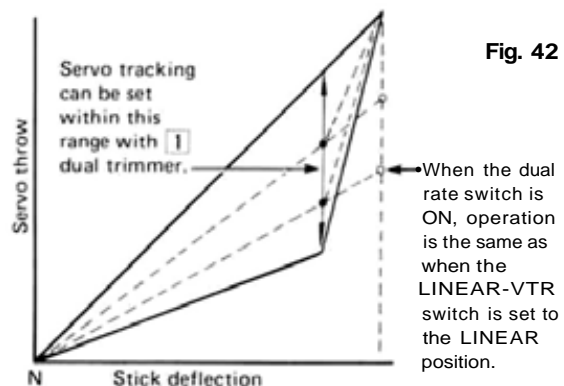

Fig. 42
•When the Aileron LINEAR/VTR Switch [3] is in the LINEAR position, servo travel is linear and directly proportional to the deflection of the transmitter control stick as shown in Fig. 42. In the VTR position (Ail. D/R Switch 14 must also be in D/R OFF pos.), servo maximum throw is unchanged. However servo tracking is the same as when the rate switch is in the D/R ON position up to about 80% of the transmitter stick deflection. Servo throw then abruptly increases to the same deflection as when D/R Switch 14 is in D/R OFF position. Fig. 42 shows the servo movement curve when VTR is used. Another way to think of VTR is as "automatic dual rate" that is switched off automatically as the control stick is moved past the 80% deflection point.